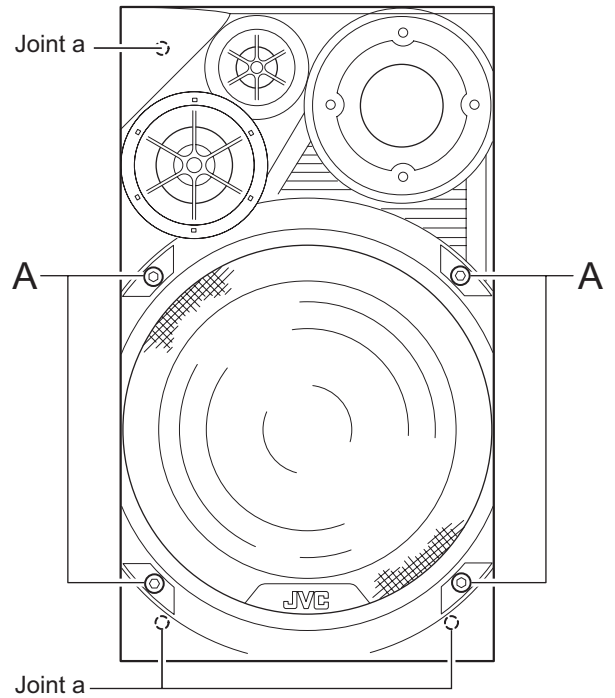

Fig.1
3.5.1.1 Removing the front cover (See Fig.1, 2)
Do not break or damage the front panel and body that are glued at the joints **a**. (See Fig.1)